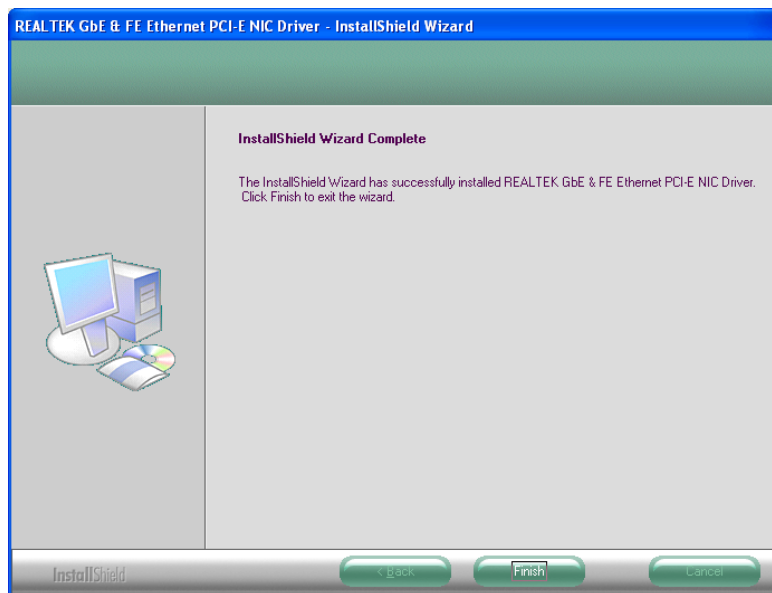

Figure 7-20: LAN Driver Installation Complete
Step 9: When the driver installation is complete, the screen in Figure 7-20 appears.
Step 10: Click Finish to exit the InstallShield Wizard (Figure 7-20).